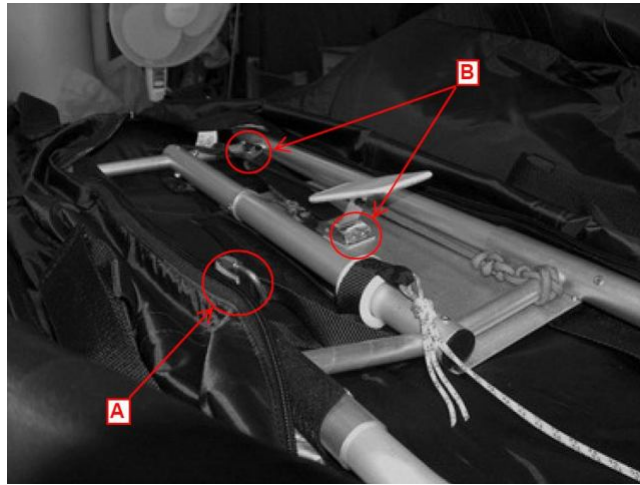
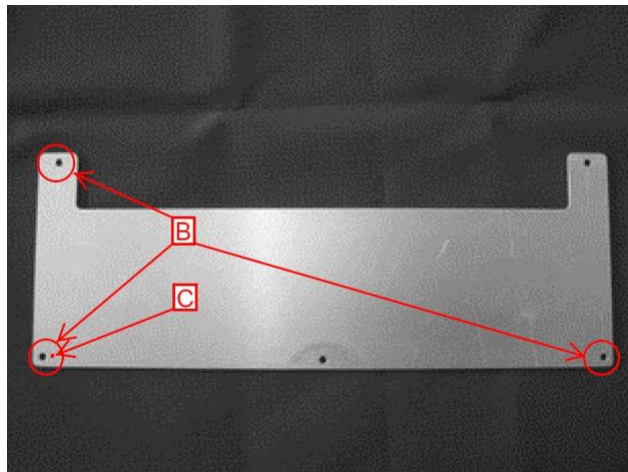

Figure 1
Figure 3
1. Open the carabiner of the back up webbing of the main hang strap (fig.1) (A).
3. Using a drill remove the pop rivets (fig.1 and fig 3 (B)).
7. Drill a hole 3.3mm diameter as shown on fig.3 (C).